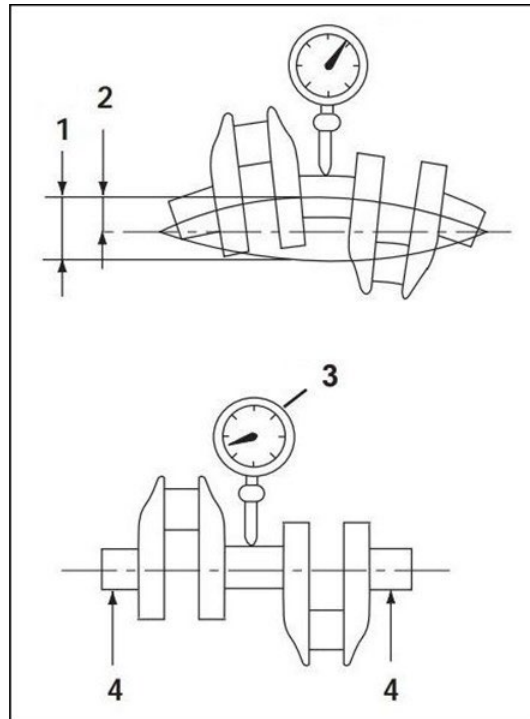

Figure 126.
1. Place the crankshaft end journals (Figure 126, item 4) on V-blocks.
2. Place a dial indicator (Figure 126, item 3) on the center main bearing surface.